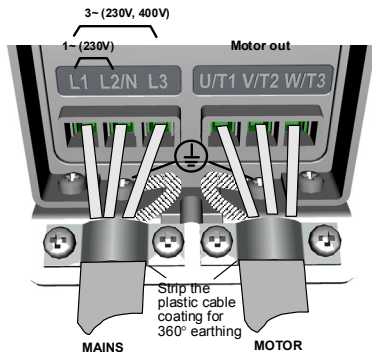
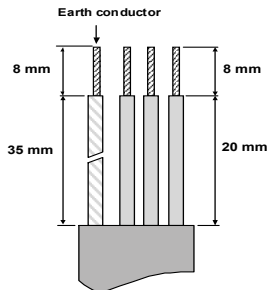

Figure 3.12: Vacon 20 power connections, MI1
Figure 3.26: Stripping of cables
| 4 | <p>Connecting the cables:</p> <ul style="list-style-type: none"> <li>• Strip the motor and mains cables as advised in Figure 3.26.</li> <li>• Connect the mains, motor and control cables into their respective terminals, see Figures 3.12 - 3.21.</li> <li>• Note the tightening torques of power cables and control cables given in page 25 and page 30.</li> <li>• For information on cable installation according to UL regulations see Chapter 3.2.7.</li> <li>• Make sure that the control cable wires do not come in contact with the electronic components of the unit.</li> <li>• If an external brake resistor (option) is used, connect its cable to the appropriate terminal.</li> <li>• Check the connection of the earth cable to the motor and the frequency converter terminals marked with</li> </ul> <div data-bbox="505 864 557 914" style="text-align: center;"> </div> <ul style="list-style-type: none"> <li>• Connect the separate shield of the motor cable to the earth plate of the frequency converter, motor and the supply centre.</li> </ul> |
**Note!** Strip also the plastic cover of the cables for 360 degree earthing. See Figures 3.12, 3.13 and 3.20.